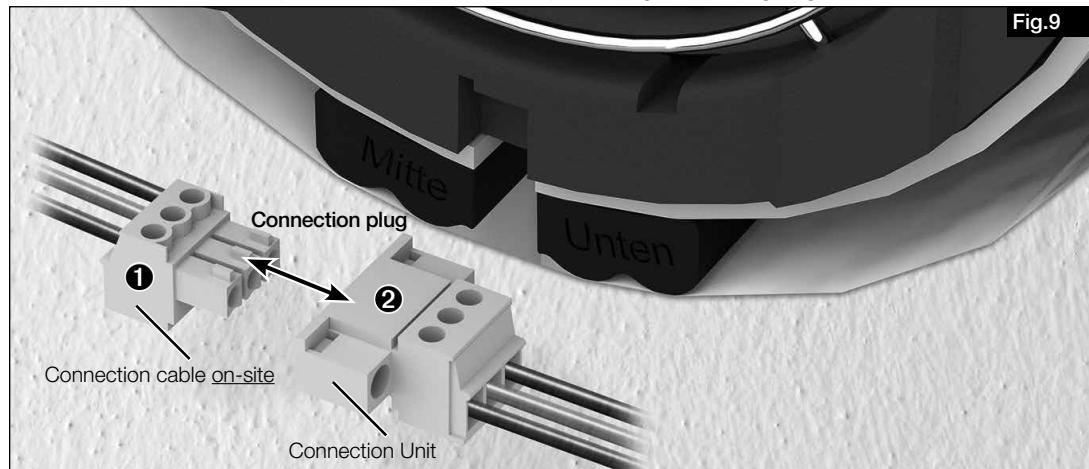

Fig.9
3. Disconnect the connector plug (part ① from ②) (see Fig. 9).